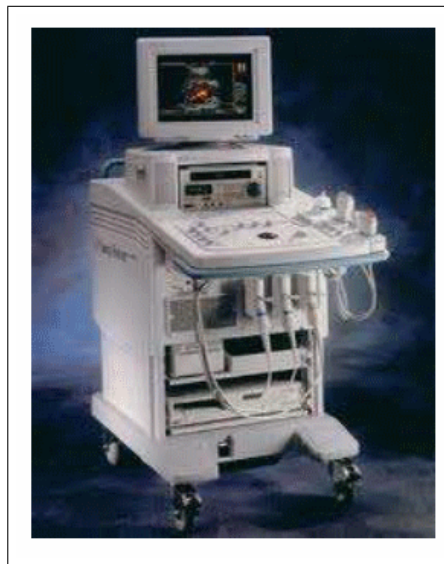

Figure 6.11: Echography.
* **Echography** (Figure 6.11) utilizes the fact that **ultrasounds** are reflected to a greater or lesser degree depending on the **nature** of the **media** encountered.